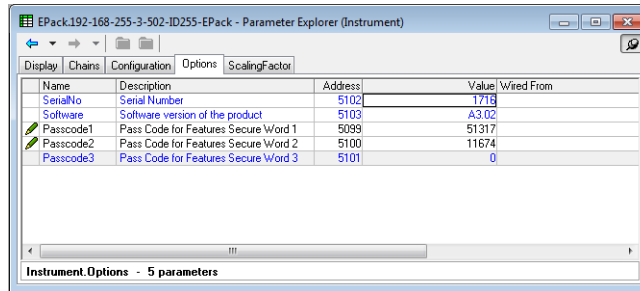

Figure 114 Instrument options configuration
1. Telephone the local Eurotherm Sales/Service agent with the serial number of the instrument to be updated, and the current software version. All required information (Serial Number, Software version, current features codes) can be found in Instrument Option folder using iTools (see Figure 114 below). This information can also be found through HMI in configuration mode 'Info' menu.